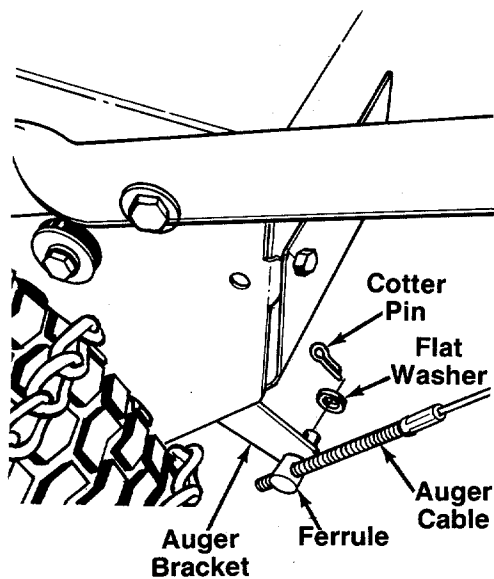

FIGURE 15.
← See figure 15.
3. Insert the ferrule into the auger bracket as shown in figure 15. Secure with 5/16" flat washer and cotter pin, bending the ends of the cotter pin in opposite directions.